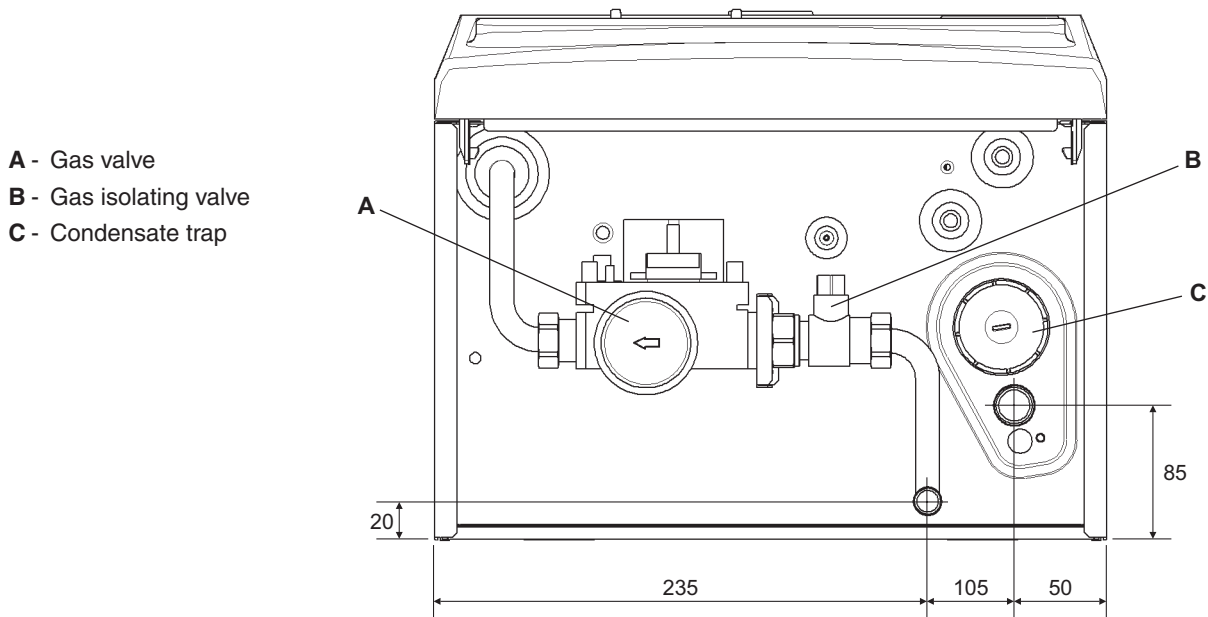

Fig. 4.4
4.5 CONNECT THE PIPEWORK - Fig. 4.4
Note: Ensure the flow and return pipes are correctly connected to the boiler. Refer to Fig. 4.4.